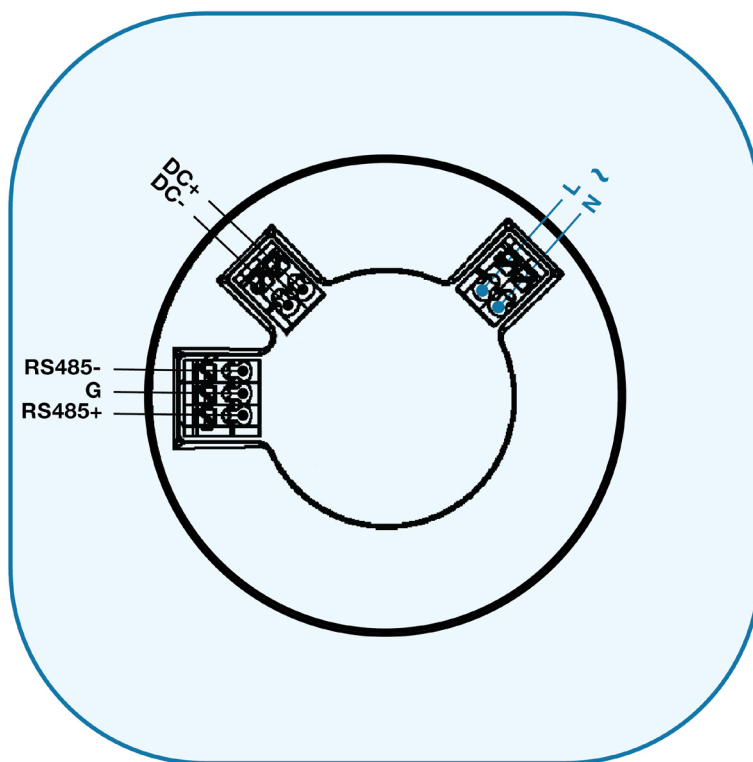

Figure 3: HY-SIGHT Wiring
2. Route power and communication wiring through the center of the HY-SIGHT (see Figure 3).
NOTE: Ensure the device wiring matches the diagram provided in Figure 3. If you are uncertain if the device is functioning properly, use the Communication Test Mode (2.8) to validate the system after the HY-SIGHT is powered on.